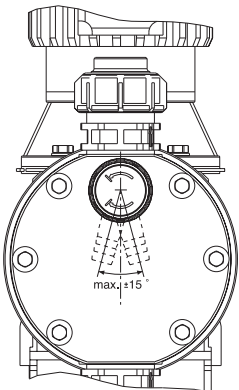

Fig. 1
- Pull the red plug for venting the gear unit during initial operation of the Sigma/ 3 metering pump (refer to Fig. 1, item 10)!